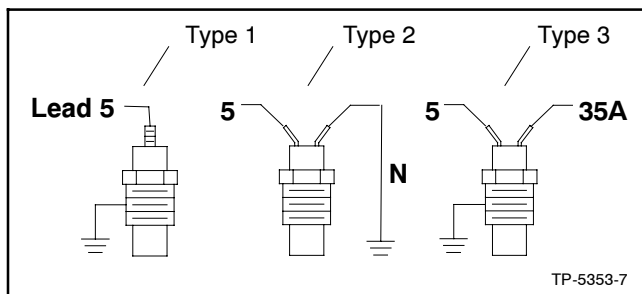

Figure 8-11 Water Temperature Sender, Typical
The water temperature sender has three configurations: (1) a single function, single-terminal type, (2) a single function, two-terminal type, and (3) a dual function, two-terminal type with temperature gauge sender and low coolant temperature switch. See Figure 8-11.